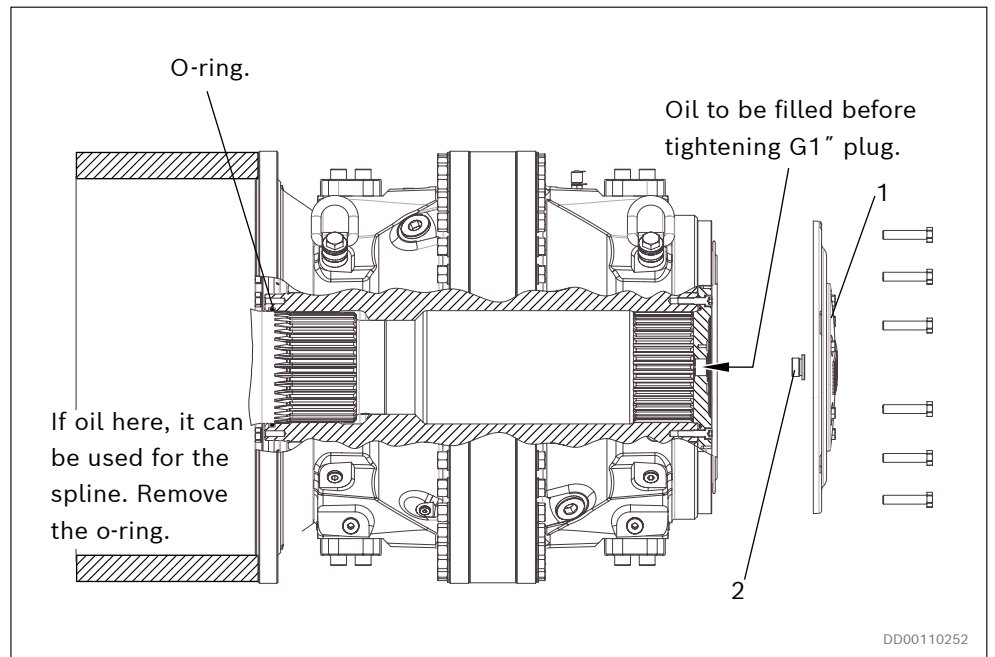

Fig. 42: Flange mounted motor, shaft horizontal
2. Fill up hydraulic oil to the G1" thread. See *Fig. 42*. Oil volume see *Table 17*.
3. Mount the G1" plug (2). Torque 125 Nm (92 lb•ft).
4. Mount the end cover (1). Torque 80 Nm (59 lb•ft).